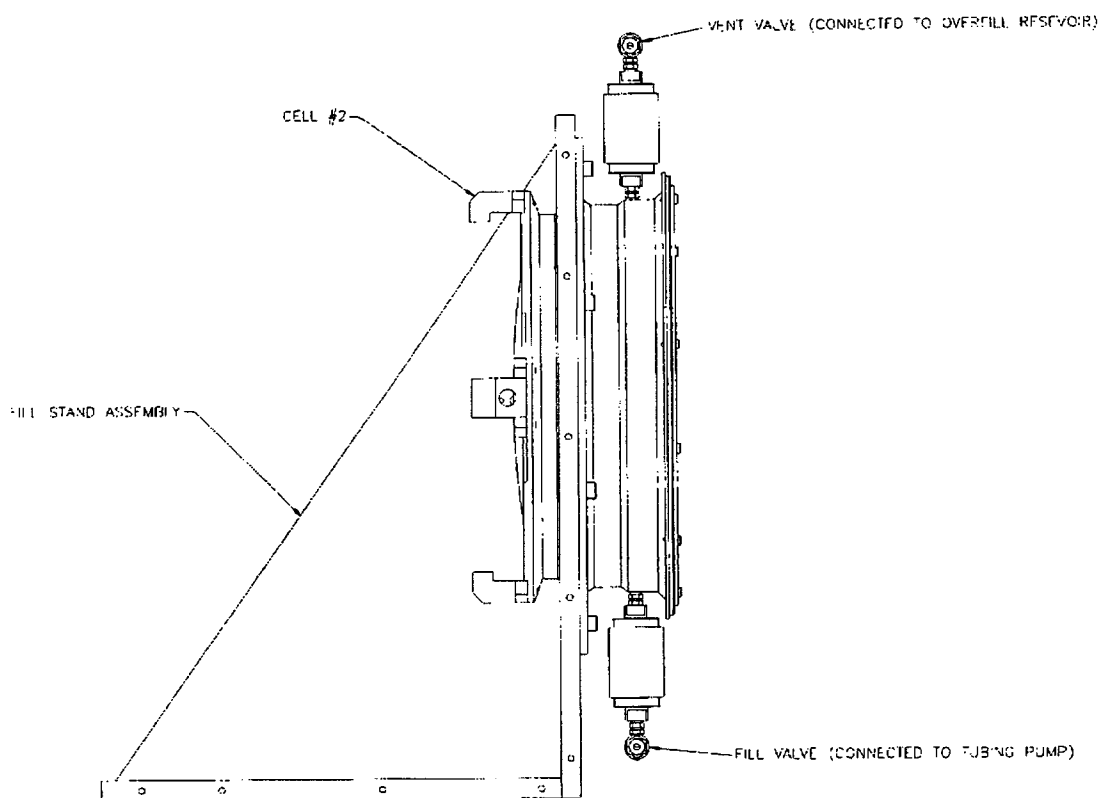

FIGURE 14: CELL #2 FILL STAND ASSEMBLY (WITH A GUSSET REMOVED FOR CLARITY)
17. Bolt the sealed cell to the filling stand with the valves lined up vertically, as shown in Figures 14 and 15.